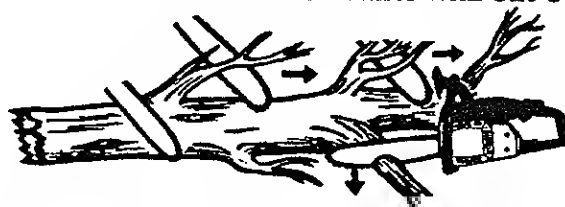

Figure 23
- c. **Start at the base of the felled tree and work toward the top,** cutting branches and limbs. Remove small limbs with one cut. Figure 23.